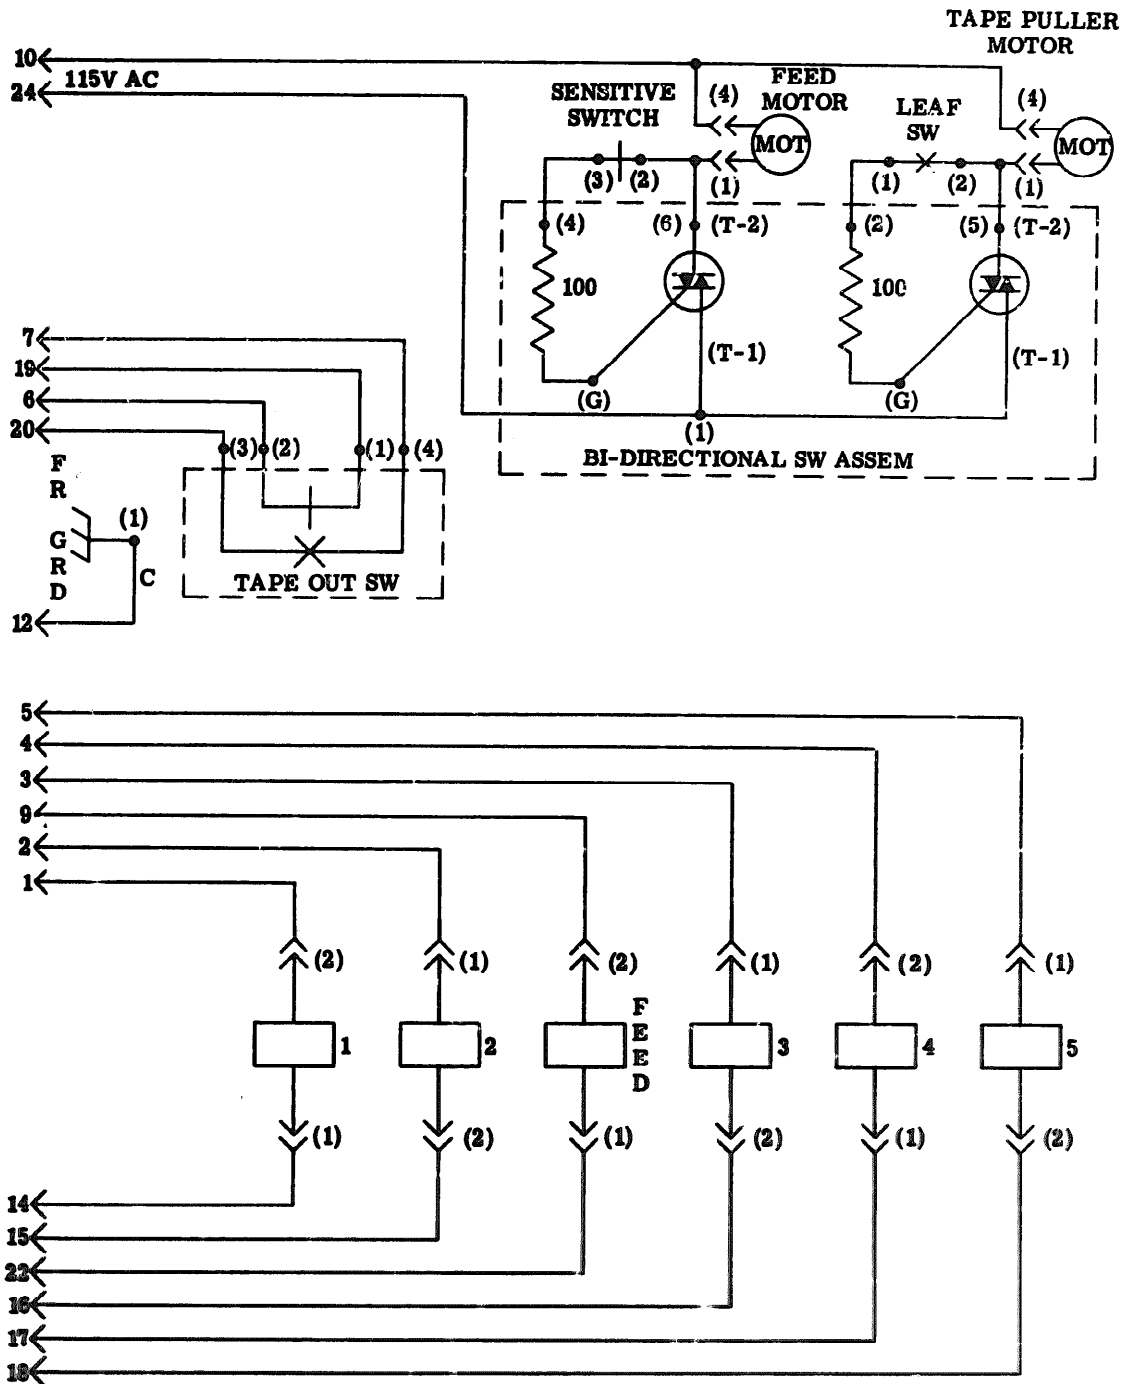

Figure 8- Typical Schematic Wiring for High Speed Tape Punch Unit (Early Design)
- (1) The drive spring is wound to its correct tension by a shaded pole motor through its pinion gear, a spring loaded idler gear with motor control switch, and a spur gear. (See Figures 8 and 9 for typical schematic wiring.)
- (2) An antireverse pawl engages the groove in a pulley at the rear Of motor pinion to prevent unwinding of the drive spring through the motor when power is removed by operation of the idler gear arm switch. This also prevents the idler gear spring and drive spring mechanisms from hunting for their balance positions.